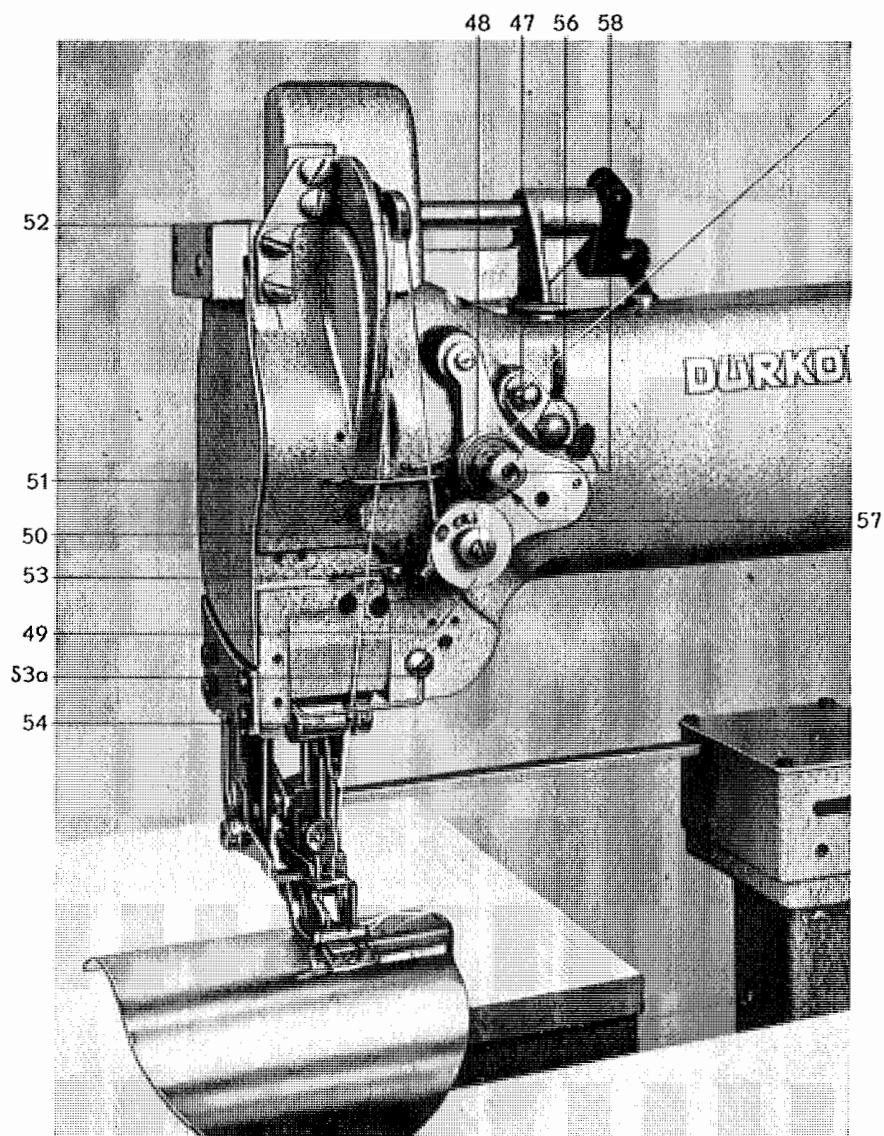

Fig. 18
2. through thread guide 47 (fig. 18),
5. hold the thread near thread guide 47 and pass its end, threaded according to item 4, vertically upwards, so that the thread comes out behind lug 50,
The **upper thread tension** is regulated by turning nut 56 (fig. 18). Turn said nut clockwise to increase and counter clockwise to decrease the tension.